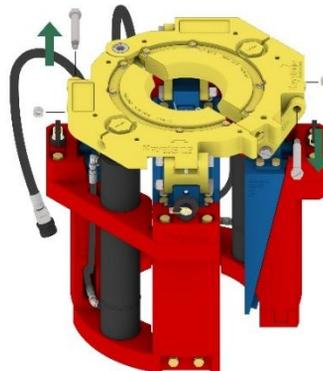

Fig. 21
Step 2: Remove the top link pins from the link and leveling plate. Fig. 21